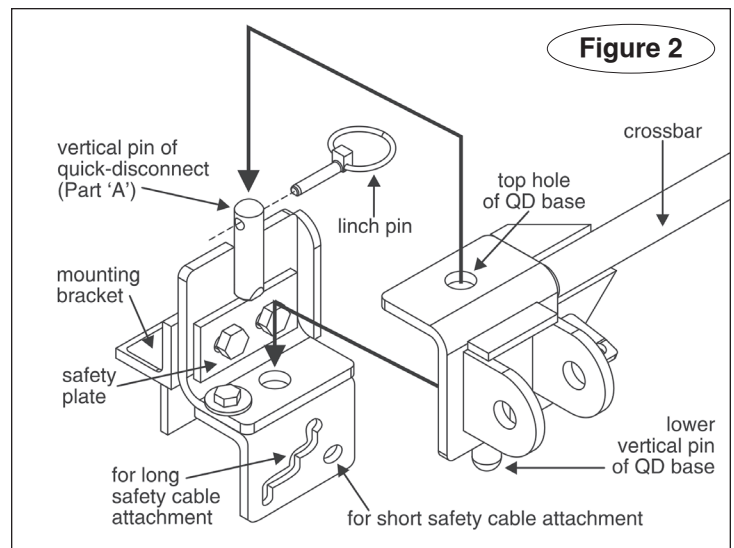

Figure 2
2. Now, test-fit the crossbar – lower the crossbar (Figure 2) over the quick-disconnects. The vertical pins at the top of both QDs should fit through the top holes at the ends of the crossbar (Figure 2), and the vertical pins at the bottom of the crossbar should fit through the lower holes on the quick-disconnects (Figure 2).
5. Both linch pins must be inserted through the upper holes in the vertical pins in parts "A" and "B," as shown in Figure 2.